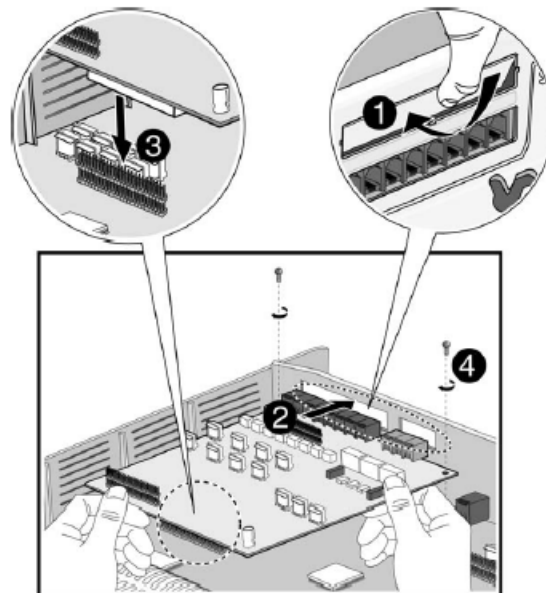

Figure 4-1 Board Installation
- Before inserting the board, remove the dummy slot (as shown in #1 of Figure 4-1).
- Hold the board (as shown in #2 of Figure 4-1), and carefully insert the board in the direction of the arrow so that the board securely engages with the connector (CN2) on the main board (as shown in #3).